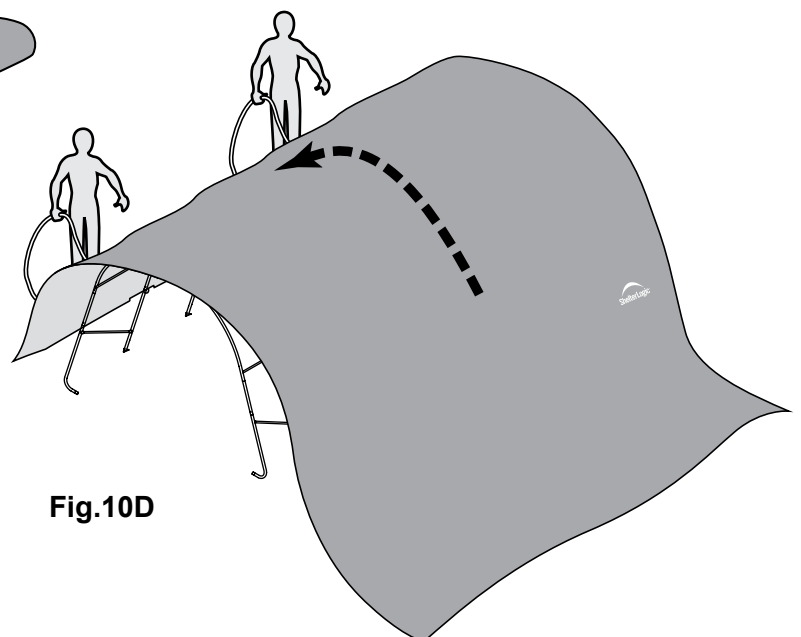

Fig.10D
D. Move to the other side of the frame and pull the cover over the frame with the rope. This may require two or more people. Fig. 10D.